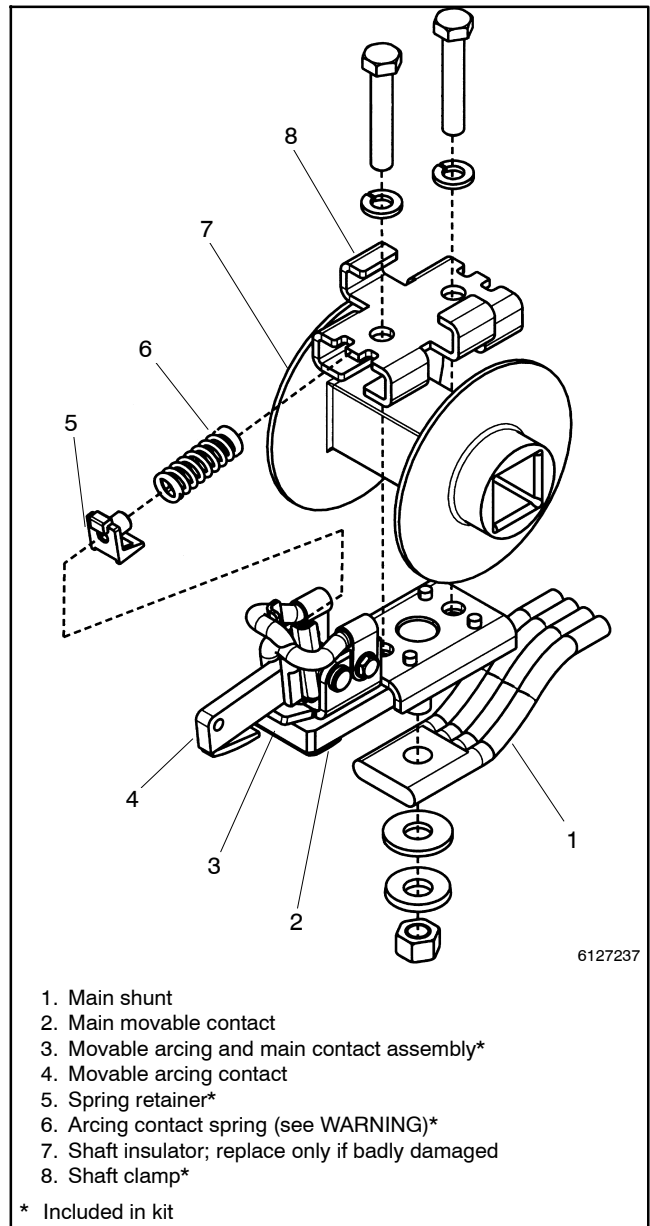

Figure 8-12 Movable Main Contact Assembly
2. Disconnect the main shunt. Use a 3/8 in. open-end or box wrench to remove the hex nut (with disc and flat washers) that secures the main shunt to the bottom of the main movable contact assembly. See Figure 8-12.
3. Remove the movable arcing contact spring. Use a screwdriver (or spring compressor) to carefully release the movable arcing contact spring from the tab on the metal bracket. See the **WARNING** first! Then remove the spring and spring retainer. See Figure 8-12.
4. Disconnect the main shunt. Use a 3/8 in. open-end or box wrench to remove the hex nut (with disc and flat washers) that secures the main shunt to the bottom of the main movable contact assembly. See Figure 8-12.
5. Remove the shaft clamp and movable contact assembly. Use a 5/16 in. socket wrench to remove the two hex head bolts (with lock washers) that secure the movable contact assembly and shaft clamp to the shaft. See Figure 8-12.
6. Install the new movable contact assembly. Position the new movable contact assembly under the shaft (align protrusions on both side). Secure it by installing the new shaft clamp and the new 5/16-18 x 1 3/4 in. long hex head bolts with split lock washers. Tighten both bolts to 6.8 Nm (5 ft. lb.), then continue tightening them to 14.9 Nm (11 ft. lb.). See Figure 8-12.
7. Reconnect the main shunt. Make sure the main shunt and new movable contact assembly surfaces are clean (do not use any abrasive). Position the main shunt under the movable contact assembly (onto the stud) and secure it with a new 3/8 in. flat washer, new 3/8 in. disc washer (curved surface toward nut), and new 3/8 in. hex nut. Use a 3/8 in. open-end or box wrench to tighten nut. See Figure 8-12.
8. Install the new movable arcing contact spring. Install the new spring retainer onto the tab on the spring bracket. Then use a screwdriver (or spring compressor) to carefully install the new movable arcing contact spring between spring retainer and the tab on the shaft clamp. See Figure 8-12.
4. Reinstall the stationary contact assembly. Make sure the bus plate and contact assembly surfaces are clean (do not use any abrasive). Position the stationary contact assembly onto the stud in the bus plate. Use a 3/8 in. socket wrench with 12 in. extension to install the quick connect terminal plate, heavy flat washer, new heavy disc washer (curved surface out), and 3/8 in. hex nut to secure the assembly. Tighten to 27.1 Nm (20 ft. lb.) torque. See Figure 8-12.